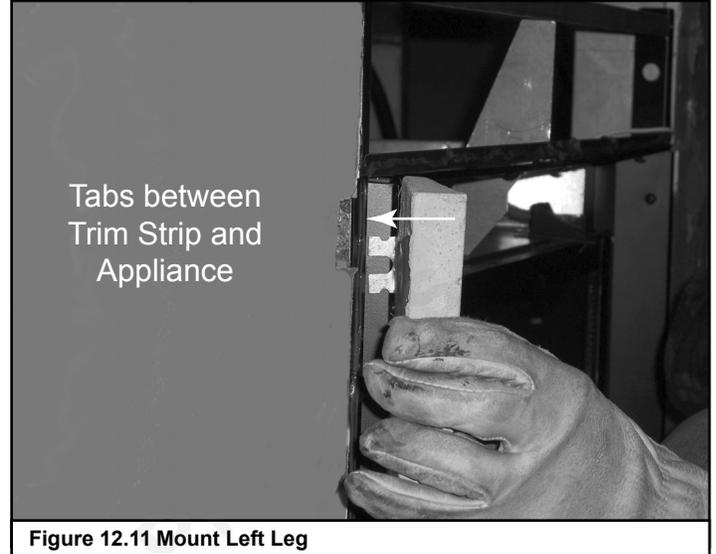

Figure 12.11 Mount Left Leg
- Mount left leg to appliance by holding back trim strips and engaging tabs in surround brackets with screws holding trim strips. See Figure 12.11